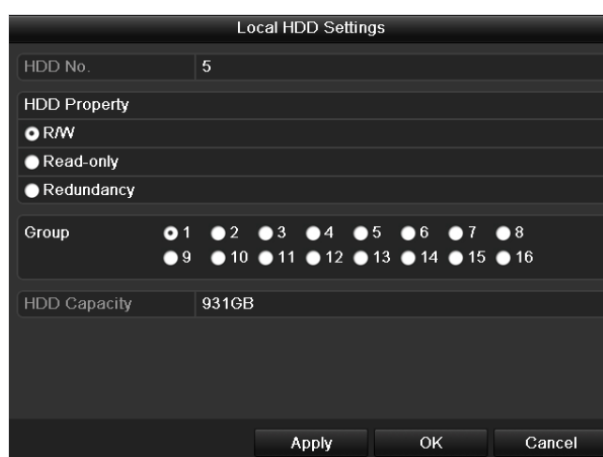

Figure 13. 17 Set HDD Property
2. Select HDD from the list and click the icon to enter the Local HDD Settings interface, as shown in Figure 13. 17.